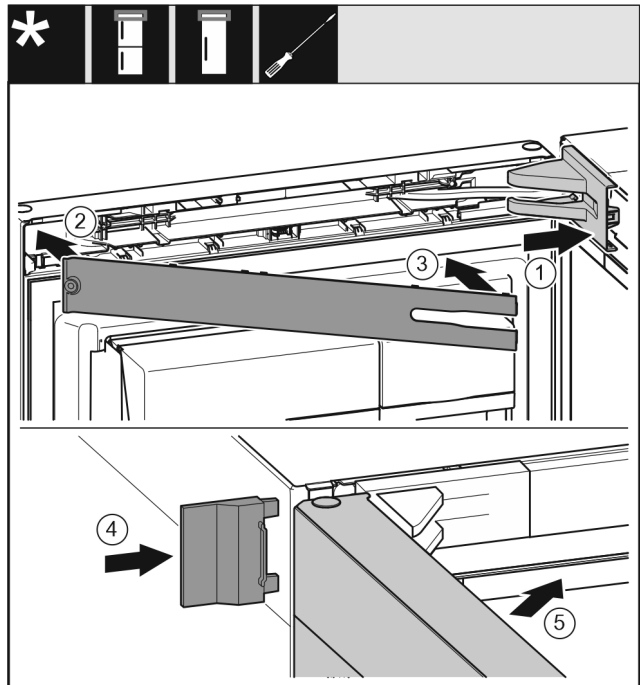

Fig. 26
- ▶ Put the swap bearing block cover Fig. 26 (1) on and engage, push apart carefully if required.
- ▶ Fit the trim Fig. 26 (2).
- ▶ Swivel in the cover Fig. 26 (3) and engage.
- ▶ Push the outer cover Fig. 26 (4) on.
- ▶ Close the upper door Fig. 26 (5).